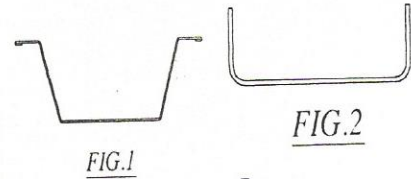
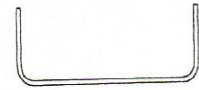

FIG.1
FIG.2
1. False Ceiling Gypsum Board Supporting Sections: These are the traditional and widely used sections for suspended Gypsum board ceilings. The sections are shown in Fig1 (Furring Profiles), Fig2 (Primary Profile/Inter-main Channels), Fig3 (Wall Peri Profile), Fig4 (Ceiling Peri Profile/Perimeter angle). Here the Furring profiles are knurled on the outside to prevent screw "ride" when attaching gypsum wallboard. Gypsum Boards have the additional quality of being fire resistant.